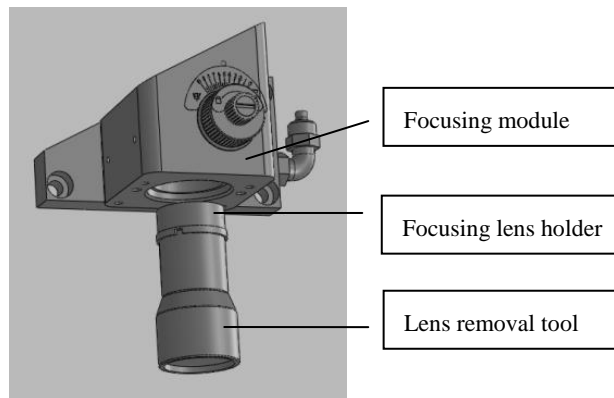

Fig.11-2
4. Align lens removal tools to the focusing lens holder, and then counterclockwise unscrew the lens holder slowly, which is as shown in Fig11-2.